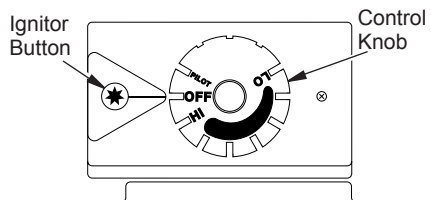

Figure 25 - Control Knob In The OFF Position
4. Wait five (5) minutes to clear out any gas. Then smell for gas, including near the floor. If you smell gas, STOP! Follow "B" in the safety information, column 1. If you don't smell gas, go to the next step.
5. Turn control knob counterclockwise ↺ to the PILOT position. Press in control knob for five (5) seconds (see Figure 25).